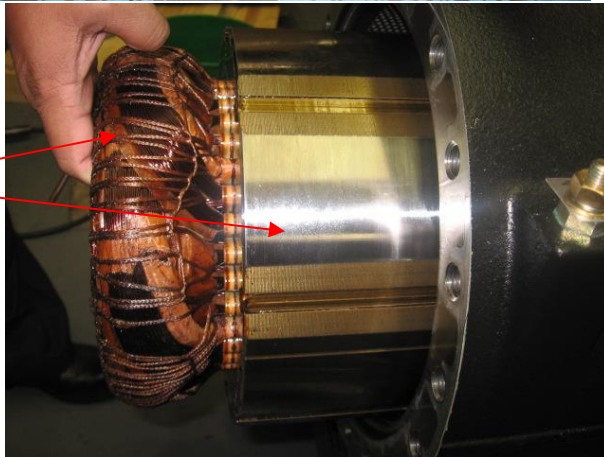

Figure 11
- Remove the motor key from the housing (located at the 9 o'clock position from the motor end) (See Fig 11)